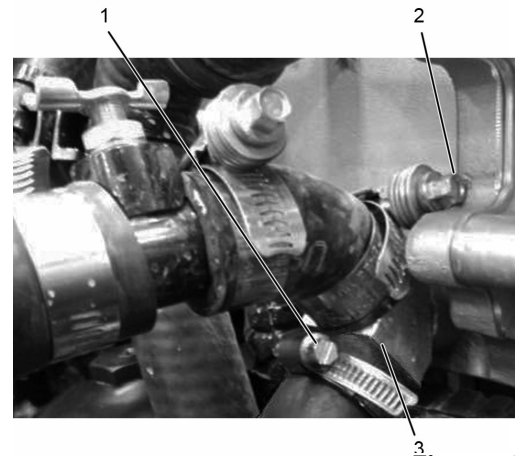

Figure 9
15. Loosen hose clamps (Figure 9, Items 1 and 2) and remove hose (Figure 9, Item 3) from EGR low-temperature cooler Y-fitting.